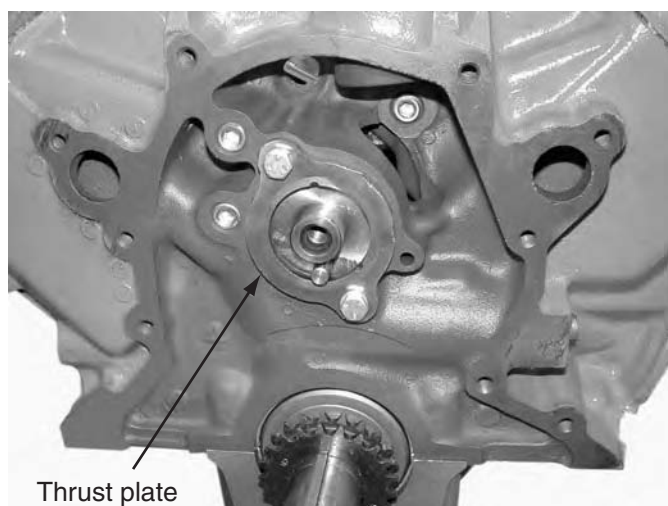

FIGURE 4.86 A bolt-on cam thrust plate. (Courtesy of Tim Gilles)
7. **Remove the camshaft.** Some engines use a bolt-on cam thrust plate (**Figure 4.86**).